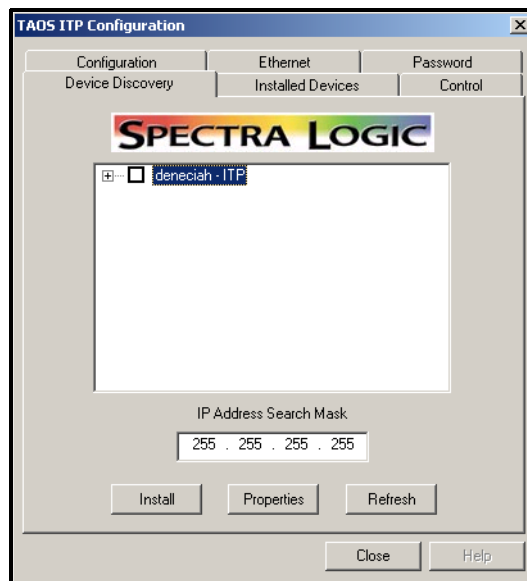

Figure 11-10 The TAOS ITP Configuration control panel.
2. Click on the TAOS ITP icon. The Device Discovery option on the TAOS ITP Configuration window displays (Figure 11-10).